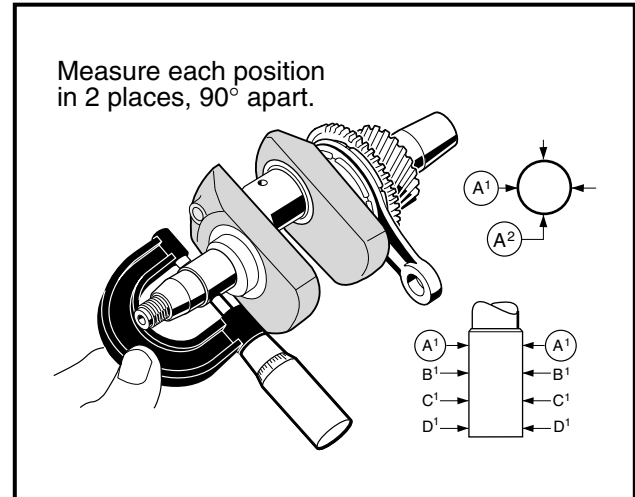

Figure 13-82 Measure Crankshaft Journals
2. Using a micrometer, measure both main journals (PTO side and flywheel side) at several points along their lengths (**Figure 13-82, Page 13-40**).